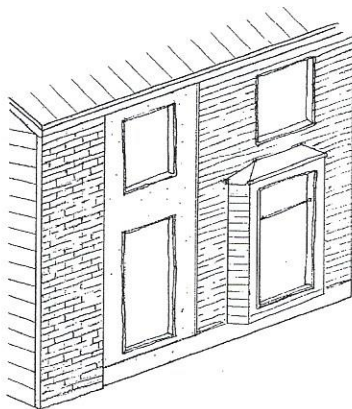

Figure 2a: Heavy material above or along lighter not allowed
- Heavier appearing materials shall be used only below lighter appearing materials (Figures 2a and 2b).